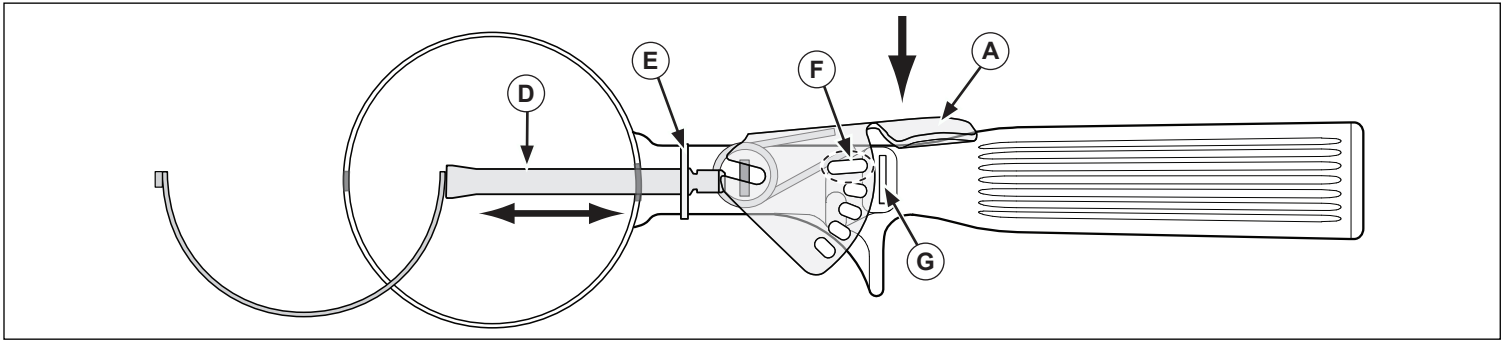

Figure 4. Blade Assembly and Pivot Bracket
- Continue to hold the gear rack (A) down. See Figure 4. Align the last gear (E) on the blade assembly (D) with the long hole (F). Slide the blade assembly (D) out of pivot bracket hole (G).
- Slowly push down and hold the gear rack (A). See Figure 4. Align the last gear (E) on the blade assembly (D) with the long hole (F). Slide the blade assembly (D) into the pivot bracket hole (G).